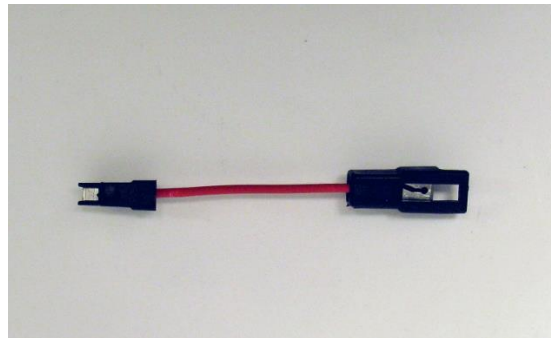

Figure 36 - 1979-82 Jumper Harness
37. For 1968-78 applications, attach a 12V constant power source to the module by installing the red wire with the black connector from the new harness into an open slot on the fuse block labeled "battery". For the 1979-82 applications, you will first need to plug in the provided jumper harness (Figure 36) into the black connector on the red wire from the new harness and then plug the jumper harness into the ATO style fuse block. Use an open slot labeled "battery". **NOTE:** Make sure the 10 amp fuse is installed between the power source and the module.